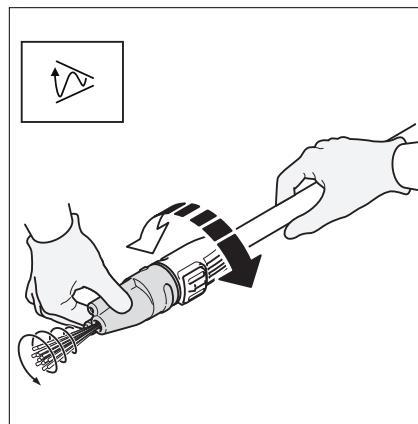

Fig. 8
- 3 in 1 nozzle installation/operation: Press the nozzle head into the end of the lance and turn clockwise (**Fig. 8**). It will lock into the lance with a “click.” Rotate the nozzle head clockwise to change the spray pattern to adjustable spray (brass nozzle), turbo spray (white nozzle) or low-pressure detergent spray (black nozzle).